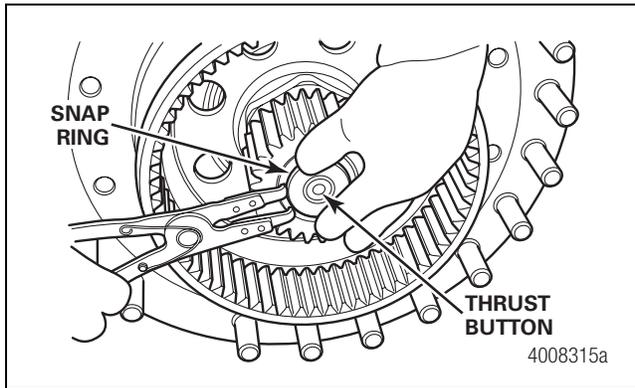

Figure 8.19
11. Install the retaining snap ring on the end of the axle shaft. Figure 8.19.